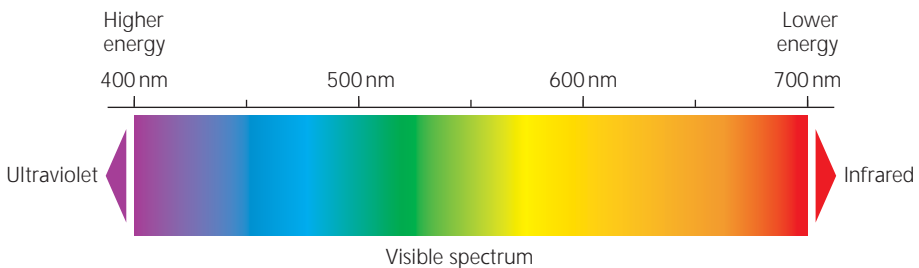

FIGURE 5 The electromagnetic spectrum
Light is a form of electromagnetic energy that travels in waves. These waves have both frequency and length, the latter of which determines the color of light. The light that can be visualized by the human eye represents a narrow wavelength band (380–700 nm) between ultraviolet (UV) and infrared (IR) radiation (Figure 5). Sunlight, for example, contains UV and IR light that, although invisible to the eye, can still be felt as warmth on the skin and measured scientifically using photodetectors. The visible spectrum can further be subdivided according to color, often remembered by the mnemonic 'ROY G BV' standing for red, orange, yellow, green, blue and violet. Red light is at the longer wavelength end (lower energy) and violet light at the shorter wavelength end (higher energy).